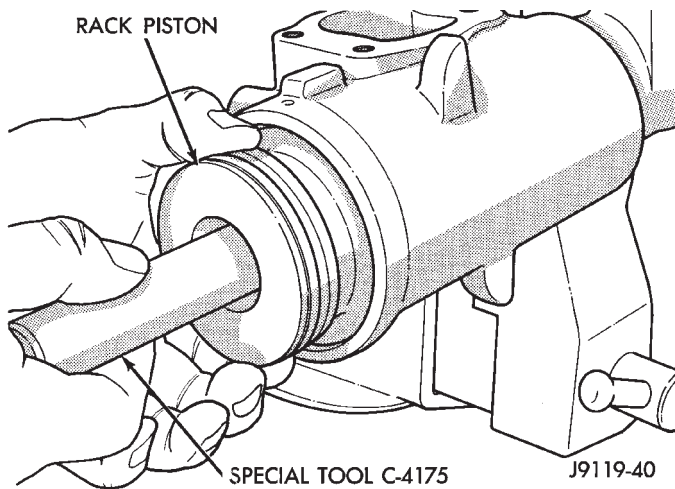
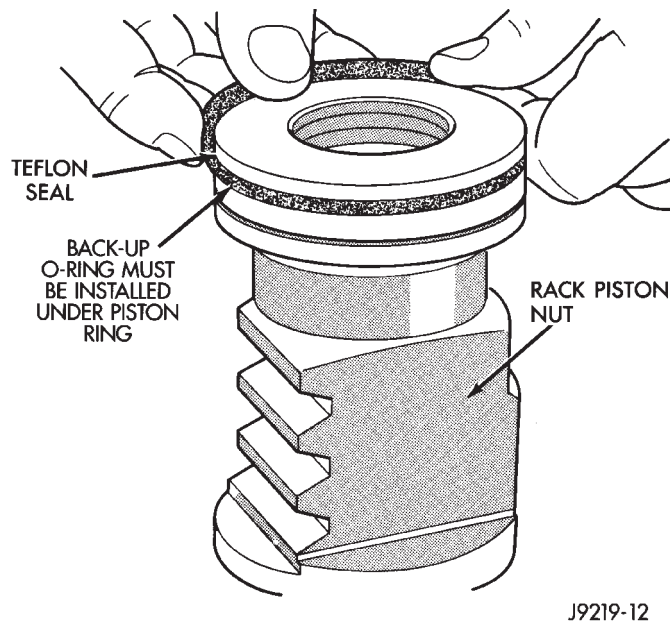

Fig. 31 Remove and Install Rack Piston
Fig. 32 Remove and Install Seal on Rack Piston
(5) Insert Arbor C-4175 into bore of rack piston (Fig. 31). Hold tool tightly against worm shaft while turning the stub shaft **COUNTERCLOCKWISE**.
(6) Remove the rack piston, rack balls, and tool together from housing.
(7) Remove valve. Refer to Valve Replacement in this section.
(8) Remove worm shaft.
(9) Remove thrust bearing and races.
(10) Remove tool from rack piston.
(11) Remove rack piston balls.
(12) Remove screws, clamp and ball guide.
(13) Remove teflon ring and O-ring seal (Fig. 32).